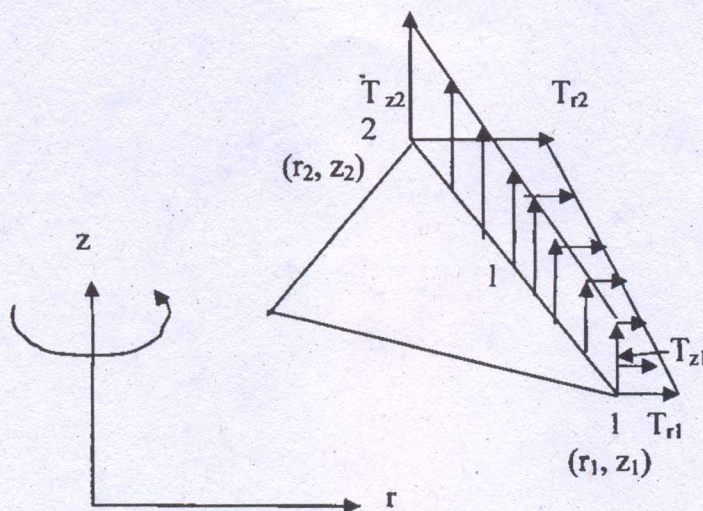

Figure 3
- (b) For the linearly varying distributed load on the axisymmetric conical surface shown in Fig. 3, prove that the equivalent point load vector T is given by